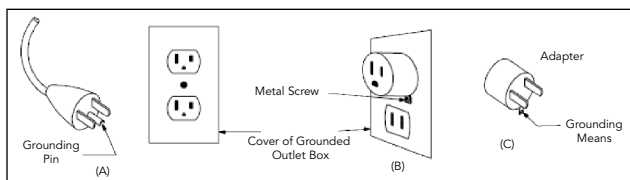

Figure 65.1
- This product is for use on 120 volt electrical outlets. The cord has a plug as shown at A in Figure 65.1. An adapter, as shown at C, can be used to connect three-blade grounding-type plugs to two-slot receptacles (it is not included with your product). The green grounding lug extending from the adapter must be connected to a permanent ground such as a properly grounded outlet box. An adapter should not be used if a three-slot grounded receptacle is available. *NOTE: A TWO-PRONG ADAPTOR IS NOT INCLUDED WITH THIS PRODUCT.